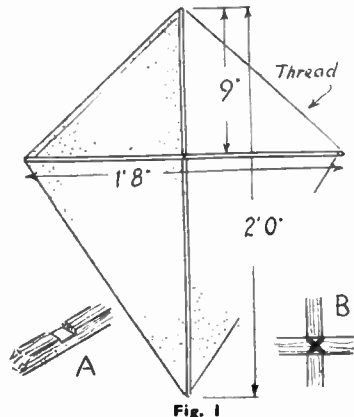
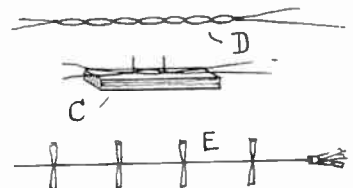

Fig. 1
Fig. 2
Make it about 3 ft. long, doubled, of course. For some 12 ins. of the middle, the doubled thread should be knotted to form a succession of loops, as at (D), in Fig. 2, so that the position of the kite line can be adjusted, as may be found necessary.
Take a double-spread sheet of newspaper and roll it up, as shown in Fig. 1. Tie the ends, like a sausage. Then prepare another roll (Fig. 2).